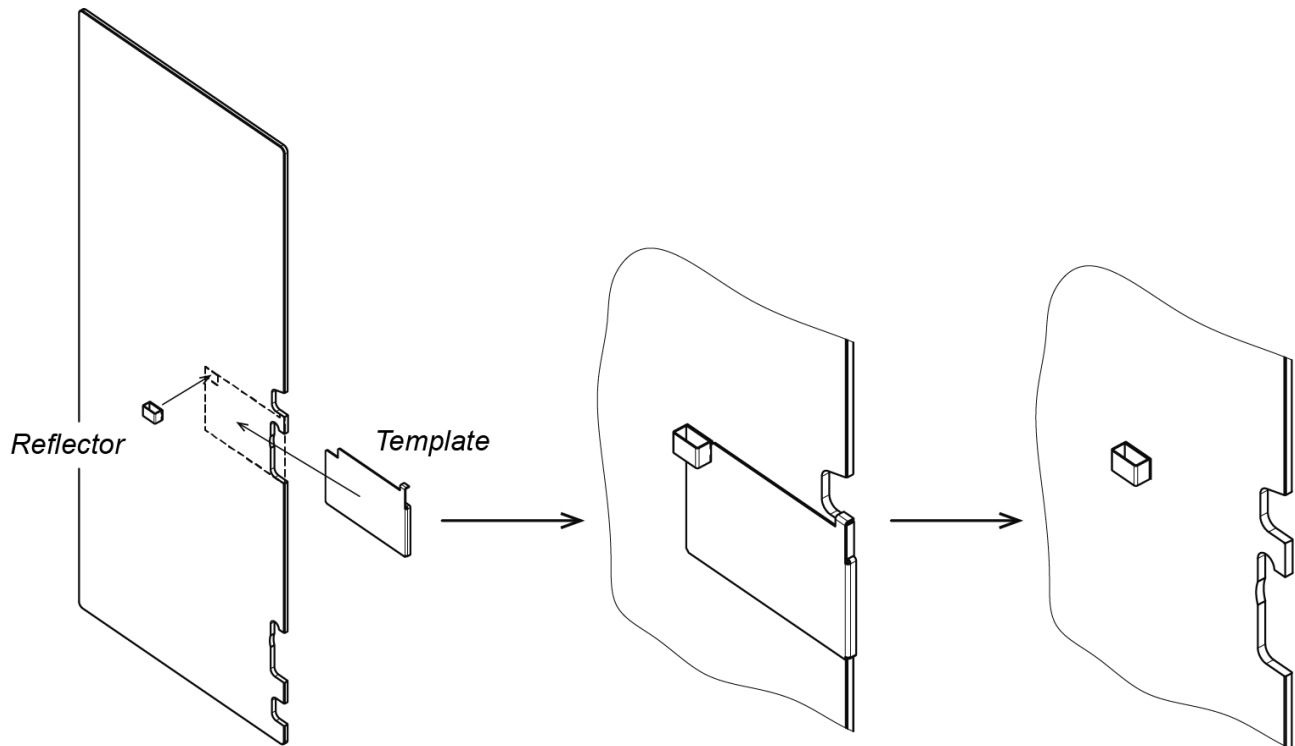

Figure 28. Installation of the reflector
2. Stick the reflector supplied in the delivery set (see Fig. 28), so: